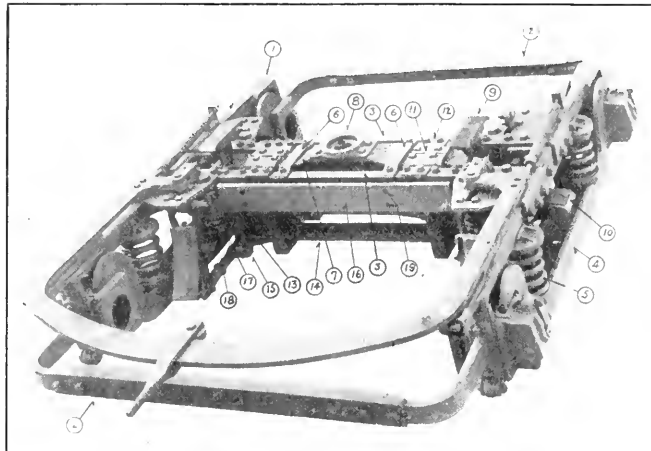

FIG. 3 A MOTOR TRUCK.
Before considering the modern methods of suspension, we will describe and point out the important parts of a modern railway motor truck. Fig 3 shows one of the latest trucks manufactured by the J. G. Brill Company. The truck consists of the side frames (1), which are tied together by the end frames (2), and the transom (3). Equalizer bars (4) and equalizer springs (5) are used. Between the sides of the transom (3), which are tied together by the transom tie bars (6), is located the bolster (7), on which is mounted the center bearing (8), and the side bearings (9). The bolster is carried on the bolster springs (10), so that same is free to move and the vibrations of the truck are not carried to the car body. Bolster chafing plates (11) and transom
By an "inside hung" motor we mean that the motor occupies the space between the axles and the transom. Take the truck shown in Fig 3 and the motors
the name "outside hung." To provide for supporting the front of the motor (the back side is carried on the axle by the axle bearings), the end frames are extended and the cross bar (16), Fig. 3, with suspension springs (17 and 18) will bear on the end frame.
side frames of the truck. Referring to Fig. 3, the cross bar (16) is shown in position with the upper and lower suspension springs (17 and 18), for the purpose of preventing undue vibration of the motor, in place. The holes (19) in the cross bar receive the bolts which fasten the front of the motor frame to the bar. The back of the motor is carried on the axle by the axle bearings with no springs. Thus all of the springs and bars of the cradle, parallel bar and Gibbs' suspension are not used. It must be borne in mind that the motor of today is more compact and rugged than the motor of fifteen years ago, and they do not require as many springs to take up the vibrations.